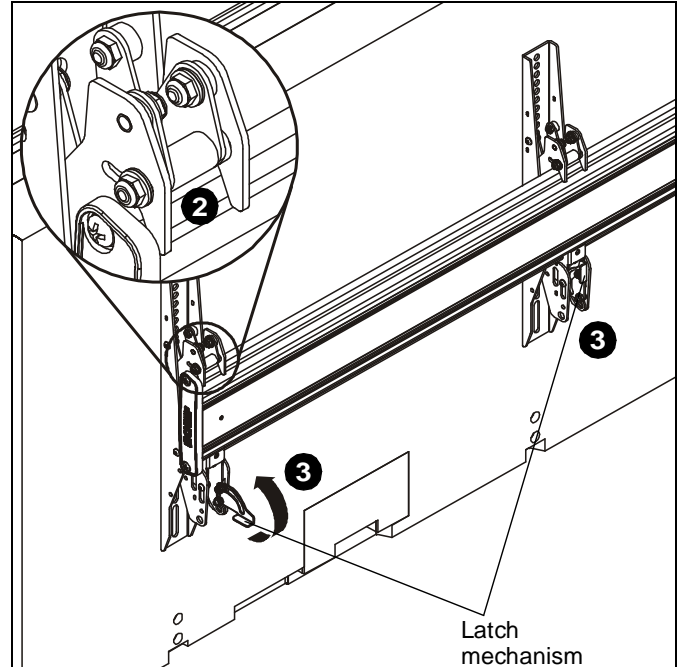

Figure 13
2. While supporting both sides of display, lower display onto center of ceiling mount, hooking top of interface brackets onto front of ceiling mount. (See Figure 13)
3. Raise the latch mechanism on both interface brackets to lock bracket in place. (See Figure 13)
6. While supporting both sides of second display, lower second display onto one end of mounting rail, hooking top of interface brackets onto front of mounting rail. (See Figure 13)
8. While supporting both sides of third display, lower third display onto opposite end of mounting rail, hooking top of interface brackets onto front of mounting rail. (See Figure 13)